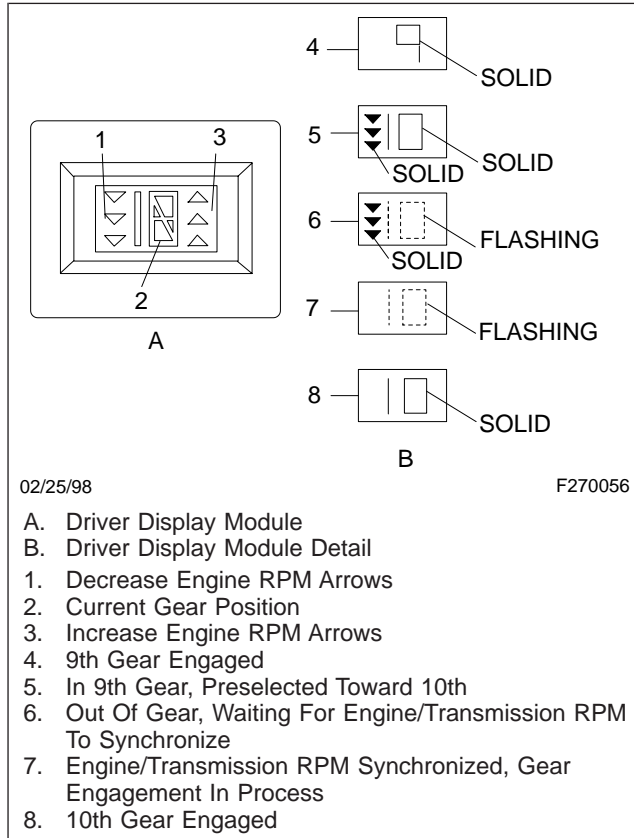

Fig. 5.12, Driver Display Module (DDM)
- The Driver Display Module, or DDM (Fig. 5.12), mounted on the dashboard, indicates gear position and the direction engine rpm needs to go for the next gear engagement. When the gear select lever is in the "D" position, the display module indicates what the driver must do to engage the next gear (decelerate or accelerate) by down and up arrows. When the gear number is solid on the display, that gear is fully engaged. When the gear number is flashing the transmission is either out of gear, waiting for the engine and transmission to synchronize, or the next gear engagement is in process.
2. An audible tone sounds from the Driver Command Console when the transmission is ready to shift. The arrows on the Driver Display Module (**Fig. 5.12**) indicate the direction engine rpm needs to go to synchronize the next shift. The next gear is shown on the display. See **Fig. 5.12**.